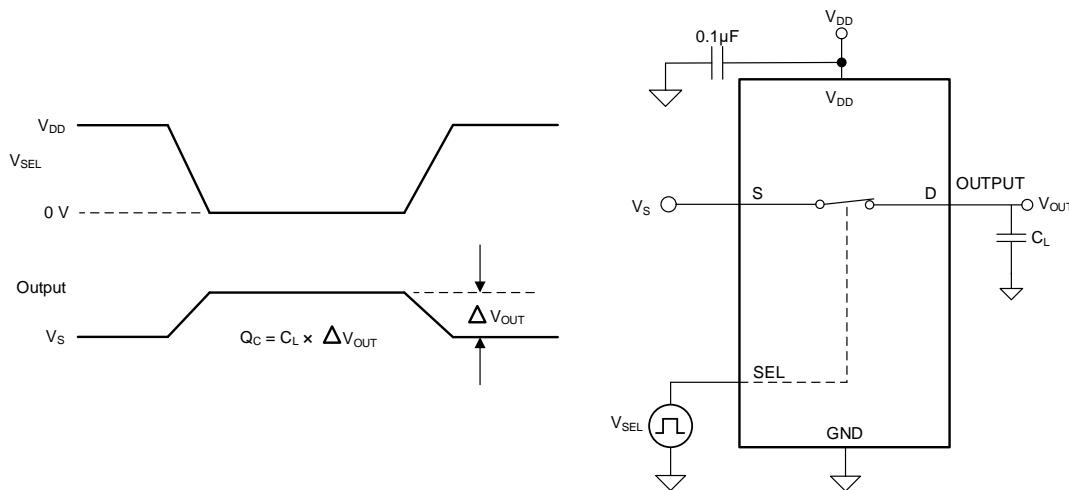

图 20. Charge-injection measurement setup
The TMUX110x devices have a transmission-gate topology. Any mismatch in capacitance between the NMOS and PMOS transistors results in a charge injected into the drain or source during the falling or rising edge of the gate signal. The amount of charge injected into the source or drain of the device is known as charge injection, and is denoted by the symbol Q_C . 图 20 shows the setup used to measure charge injection from source (S) to drain (D).